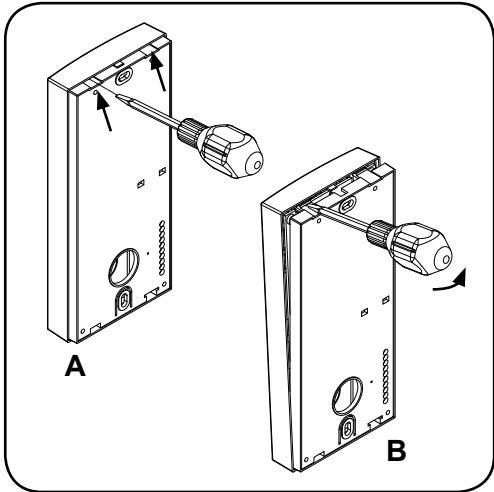

Fig.1
• As show in Fig 1, looking at the rear of the intercom, insert the tip of a flat blade screwdriver into one of the two openings (Fig 1A) then slightly move the screwdriver in an upward direction to release the front from the back plate and opening the intercom unit (Fig 1B). **Take care! The back plate of the intercom houses the pcb connection board which is normally connected to the pcb in the front of the intercom by the ribbon cable, the ribbon cable should not be connected when first opened.**